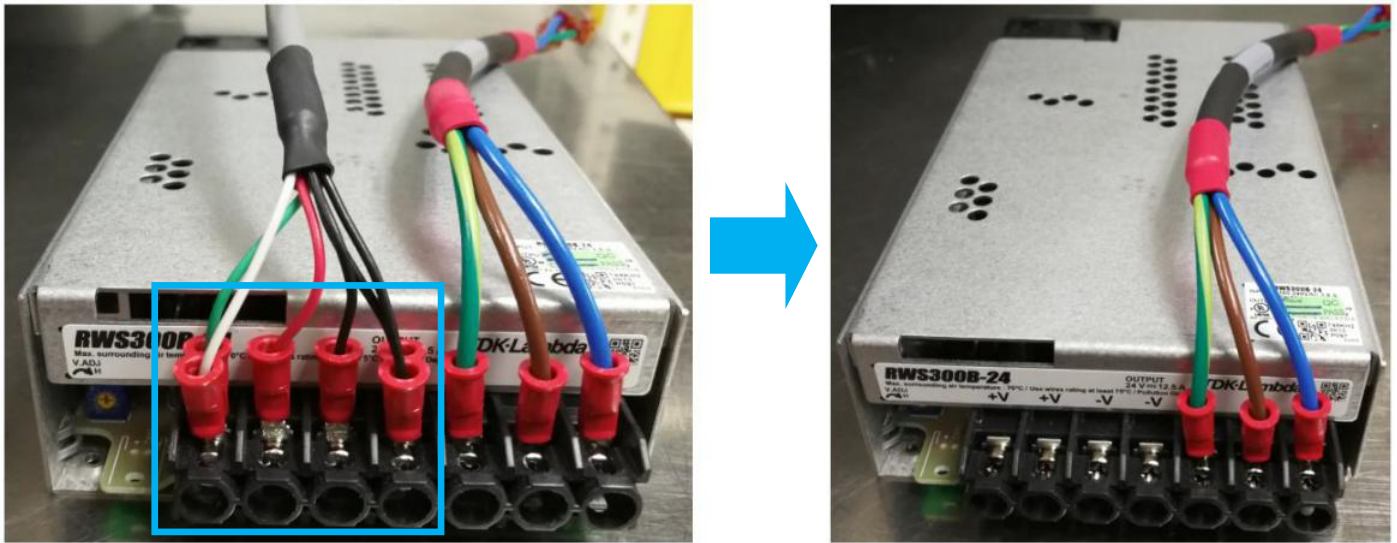

Figure 15 Trigger Board End Power Cable removal
17. Remove Trigger Board End Power Cable from Power Supply as below Figure 15